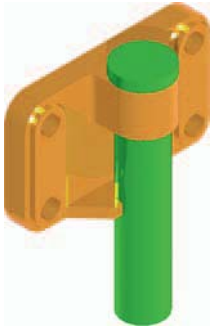

Fig. 18.16 First example – 3D models
First example (Fig. 18.16)
7. **Isometric view.** Render. Adjust lighting and materials as necessary (Fig. 18.16).